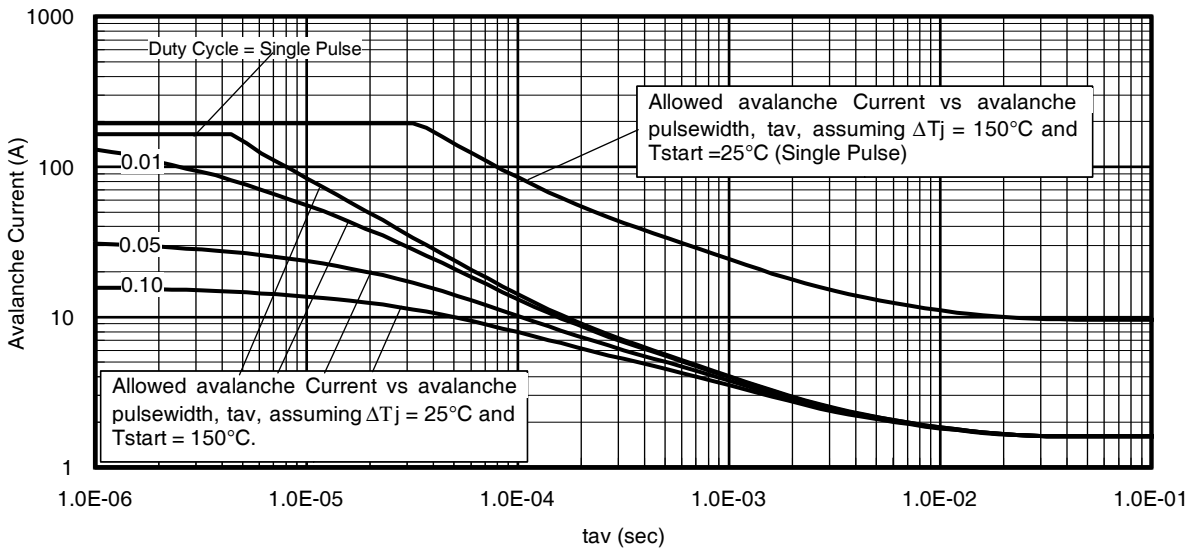

Fig 14. Typical Avalanche Current vs. Pulsewidth
- ① Calculated continuous current based on maximum allowable junction temperature Bond wire current limit is 195A. Note that current limitation arising from heating of the device leads may occur with some lead mounting arrangements.
- ② Repetitive rating; pulse width limited by max. junction temperature.
- ③ Limited by T_{Jmax}, starting T_J = 25°C, L = 0.021mH R_G = 25Ω, I_{AS} = 165A, V_{GS} = 10V. Part not recommended for use above this value.
- ④ I_{SD} ≤ 165A, di/dt ≤ 430A/µs, V_{DD} ≤ V_{(BR)DSS}, T_J ≤ 175°C.
- ⑤ Pulse width ≤ 400µs; duty cycle ≤ 2%.
- ⑥ C_{oss eff. (TR)} is a fixed capacitance that gives the same charging time as C_{oss} while V_{DS} is rising from 0 to 80% V_{DSS}.
- ⑦ C_{oss eff. (ER)} is a fixed capacitance that gives the same energy as C_{oss} while V_{DS} is rising from 0 to 80% V_{DSS}.
- ⑧ When mounted on 1" square PCB (FR-4 or G-10 Material). For recommended footprint and soldering techniques refer to application note # AN-994.
- ⑨ R_{θj} is measured at T_J approximately 90°C.
- ⑩ Limited by T_{Jmax}, see Fig. 14, 15, 22a, 22b for typical repetitive avalanche performance.
- ⑪ R_{θJC} value shown is at time zero.
Notes on Repetitive Avalanche Curves, Figures 14, 15:
7. ΔT = Allowable rise in junction temperature, not to exceed T_{jmax} (assumed as 25°C in Figure 14, 15).